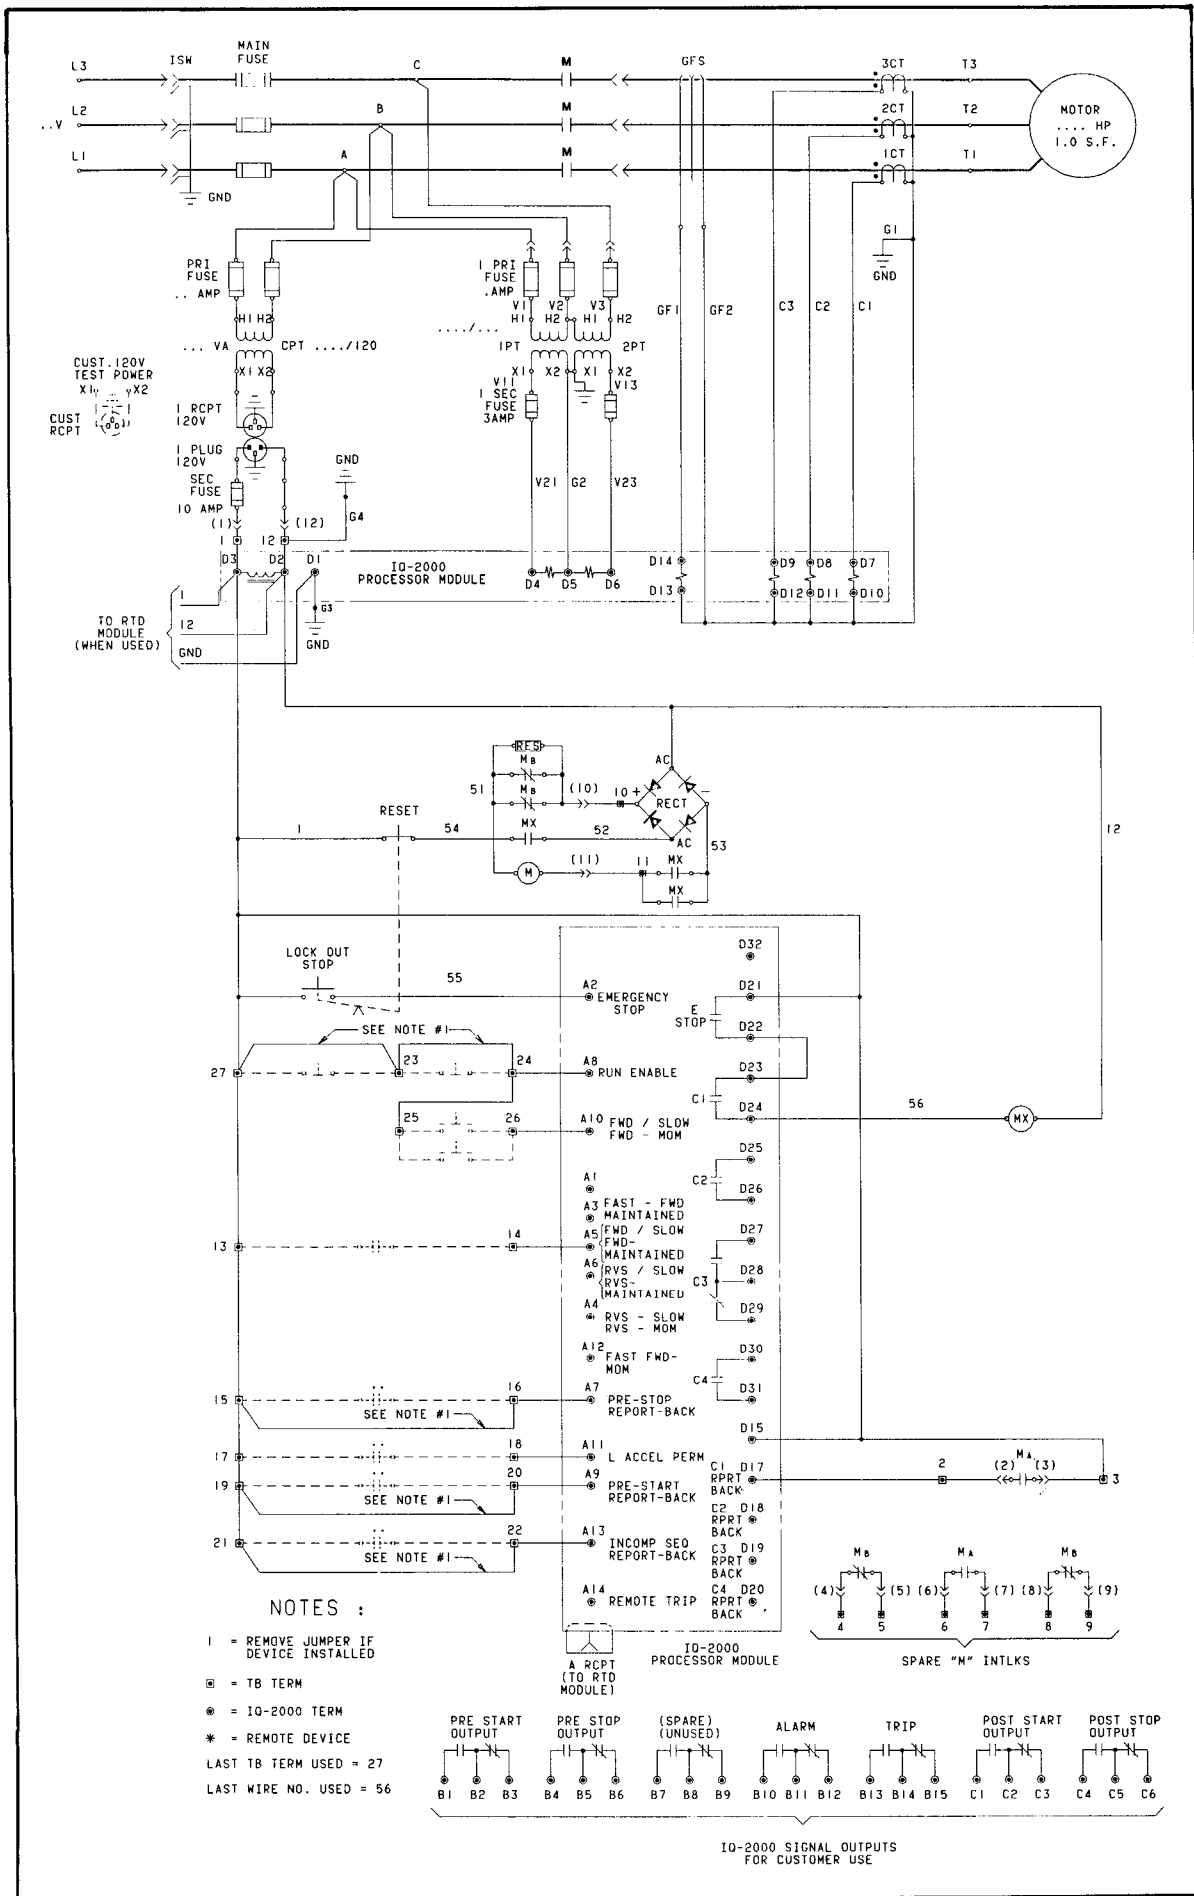

Figure 3.1 – Ampgard Schematic (typical)
3.1 Ampgard Schematic — The wiring between the Ampgard starter and the IQ-2000 is factory installed by Westinghouse. Each specific hardware configuration is shown on a unique Ampgard Schematic shipped with the unit. (A typical Ampgard Schematic is shown in Figure 3.1.) The drawing is for a Class 11-202 induction, full-voltage, non-reversing unit.